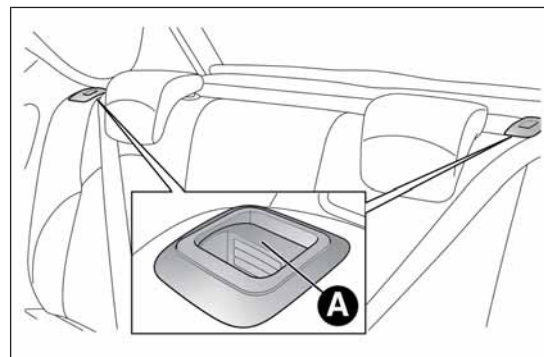

fig. 67
- lift the backrest retaining levers A fig. 67 and fold the desired cushion forwards (a red band indicates that lever A is raised).
Raise the previously folded backrest until you hear the click of the locking mechanism, visually checking that the red band on lever A fig. 67 has disappeared. The red band indicates that the backrest is not secured.